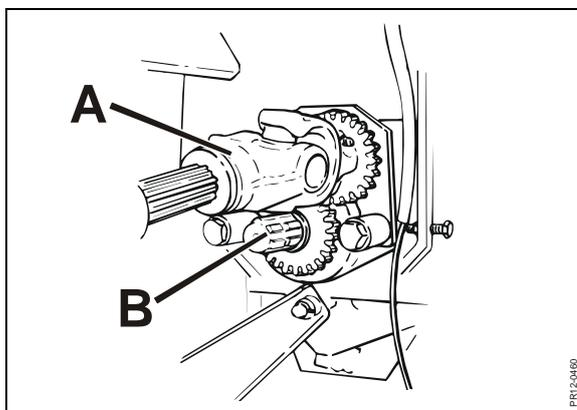

Fig. 5-4
- Fig. 5-4** 2) Move the PTO shaft **A** for the rotor to the alternative pin in **pos. 1** where the gear wheels are not in mesh. Thereby the rotor is not driven.